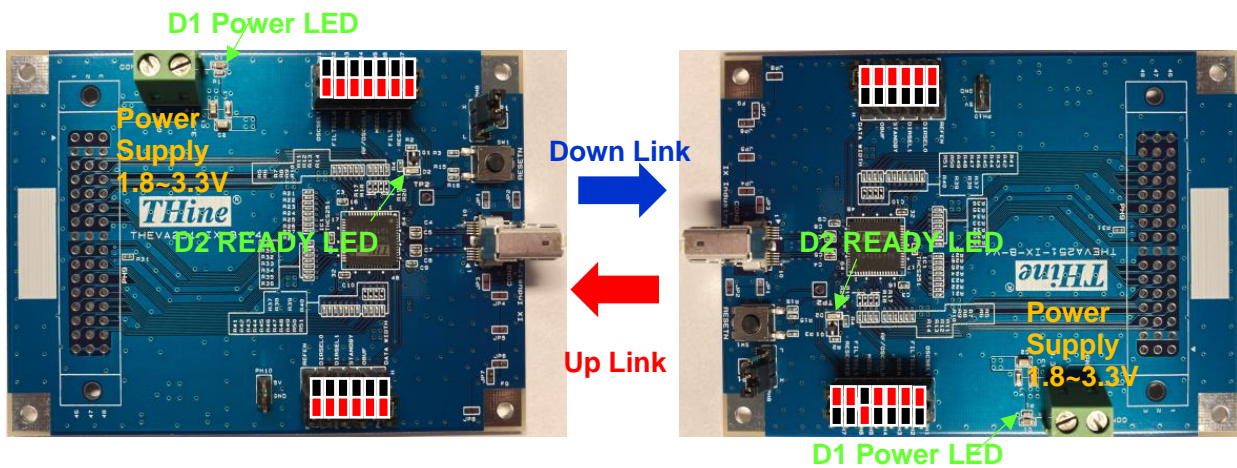

Figure 3 THEVA251-IX-B-V4 Quick start pin setting
1.3.1 Connect the master and slave boards with jumper pin settings as shown in Figure 3 using LAN cables.